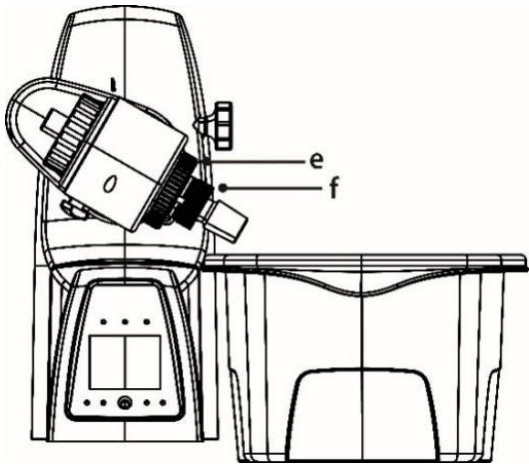

Figure 9
- Open the locking device on the drive head by turning it 60° counter clockwise (e), (Figure 9). Feed the steam pipe in until it stops.
- The plastic screw nut (f) helps loosen tight-fitting piston ground-in connections (Figure 9).